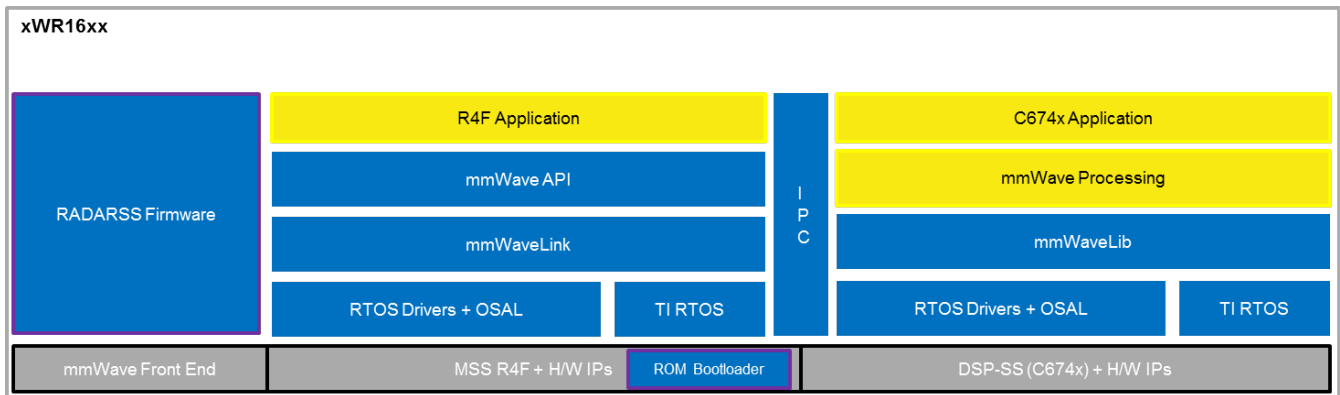

Figure 3: Autonomous xWR16xx sensor (Standalone mode)
- Figure 3: Autonomous xWR16xx sensor (Standalone mode)
Typical xWR16xx customer deployment is shown in Figure 3: